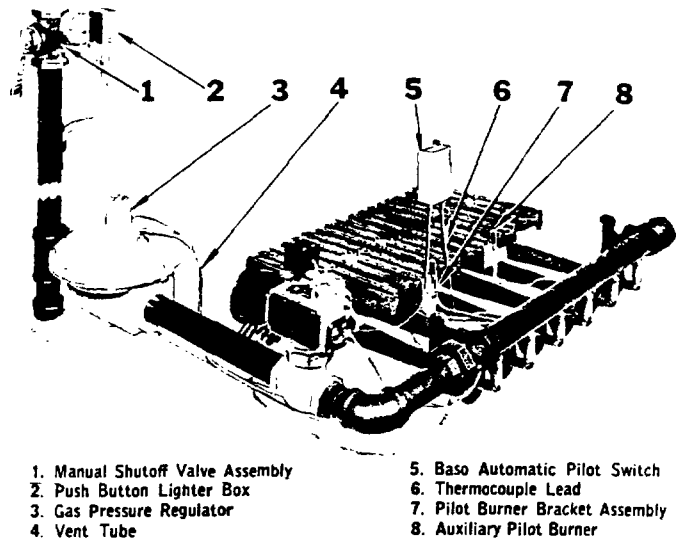

FIG. 12—Control Connections
1. Connect pilot lines from manual shutoff valve, shown in supply piping arrangement, Fig. 14, to unions in line to pilot burner and electric ignition block on burner No. 2. Auxiliary pilot burners should be connected to pilot burner line with $\frac{1}{8}$ brass tee or elbow. See Fig. 12.